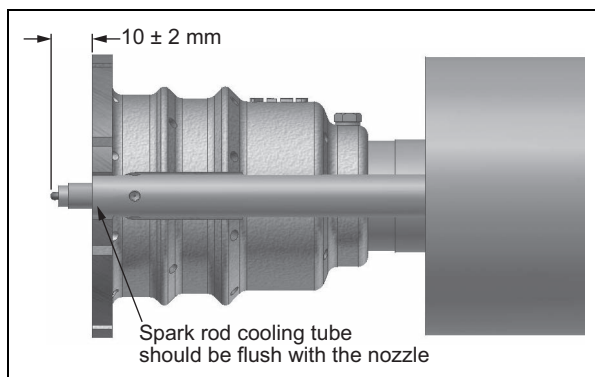

Figure 3.17b
3. Confirm the position of the igniter. See Figure 3.17b.